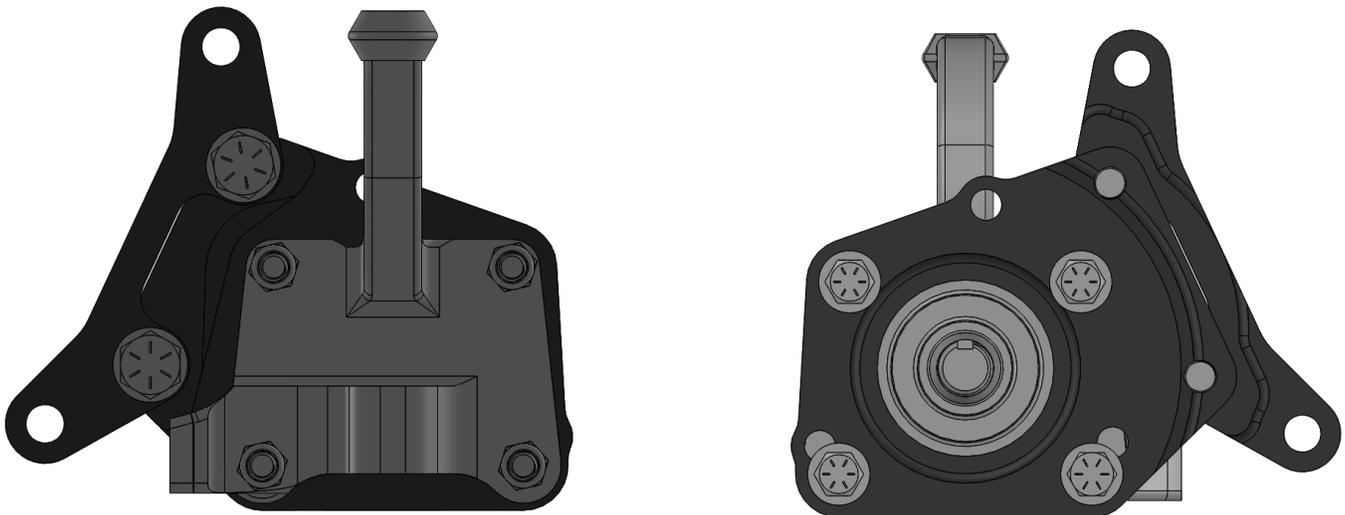

Figure 3. Intermediate bracket installed
7. Install the intermediate bracket to the inboard side of the base bracket using the supplied 1/2-13 bolts and washers. Simply tighten the bolts for now as they will likely require removal to shim the intermediate bracket during the shimming procedure. See Figure 3 below for reference.